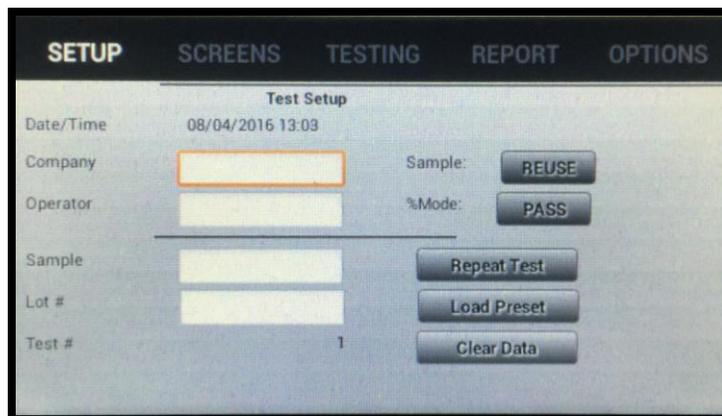

Figure 21
- h. After the **OK** button has been pressed the “SET-UP” screen will become fully visible. (Figure 21)
6.2.1 Setup Page – See Figure 21